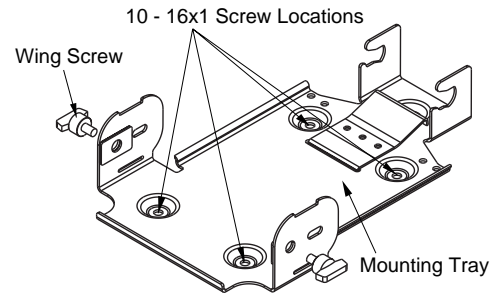

Figure 14 Mounting Tray for High Power Radios
1. Select the location to mount your radio on a flat surface (See Figure 14).
4. Secure the mounting tray with the four 10 - 16x1 screws provided (See Figure 14).